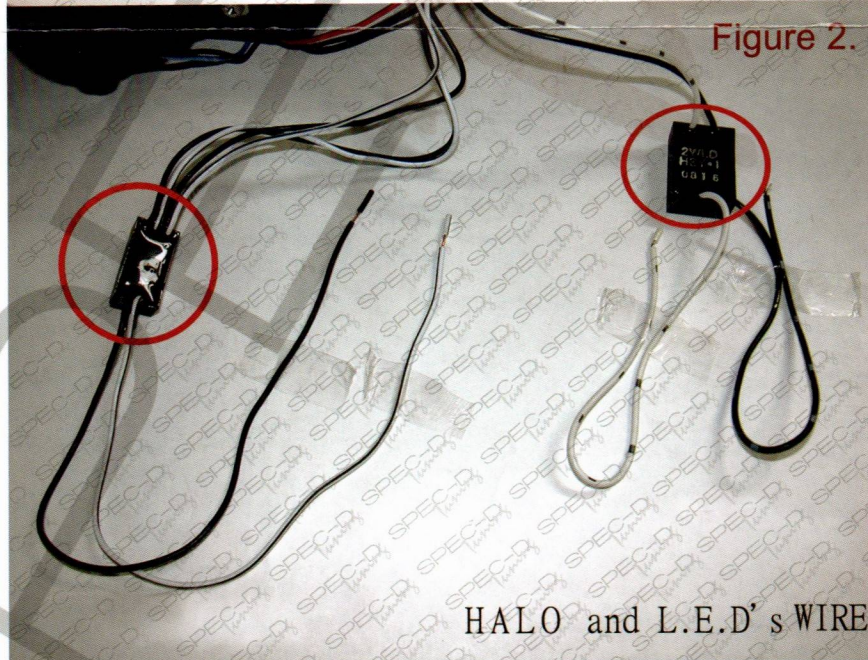

Figure 2.
1. Connect the Black Wire from **(Figure 2)** to the ground wire (-) of the driving lights
2. Connect the White Wire from **(Figure 2)** to the positive wire (+) of the driving light
3. You can also connect the Black wire from Halo and L.E.D. wire in **(Figure 2)** together on the ground wire (-) of the driving light. Connect the White wire from Halo and L.E.D. wire in **(Figure 2)** on the positive wire (+) of driving light